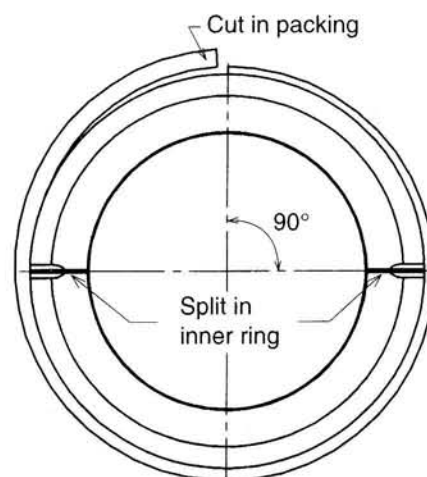

Fig. 9 Packing Installation
- 2) Fit the packing to the groove so that the cut in the packing is at a 90° position from the split in the inner ring (see Fig. 9).